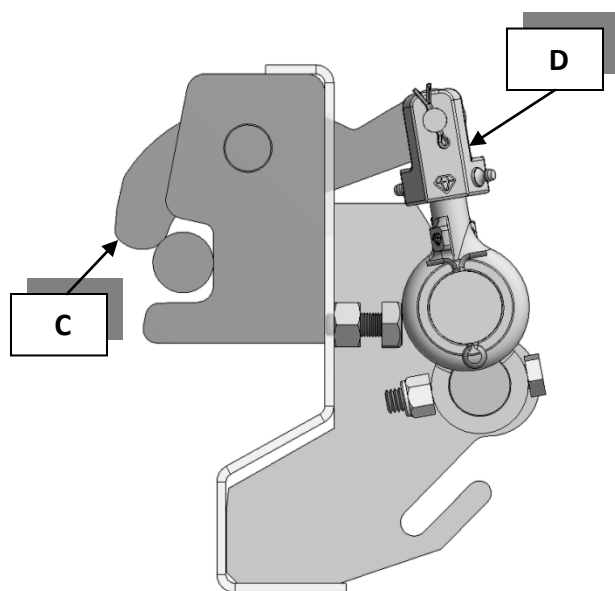

Figure 3
- Pull this side of the tailgate tight against the floor and try locking it with both latches (**C**) engaged (*figure 3*).